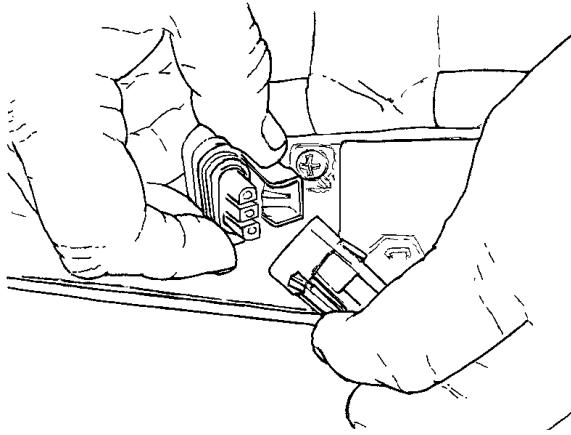

Figure 5 Disconnect Harness
1. Disconnect rod stroke sensor harness (Figure 5).